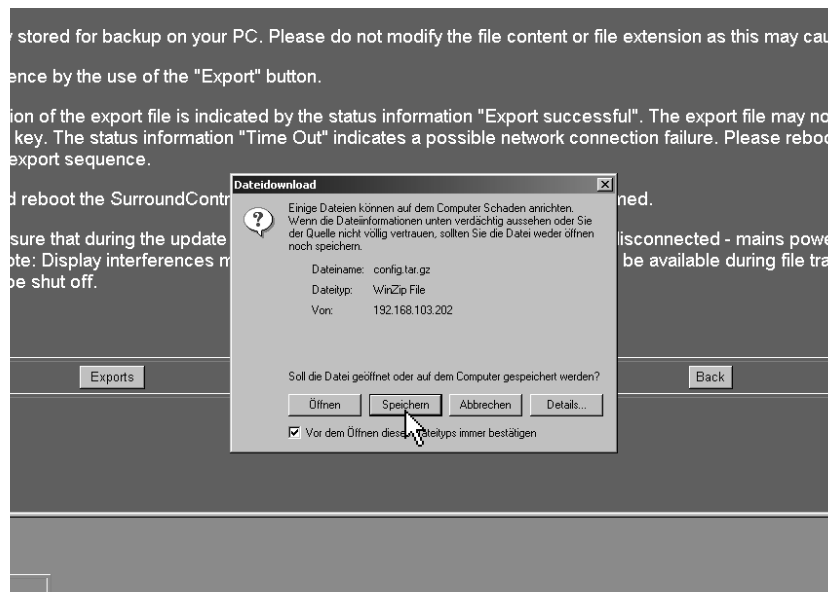

Fig. 5-6: The file download dialog
6. The file download dialog box appears (see Fig. 5-6). Please click Save („Speichern“).